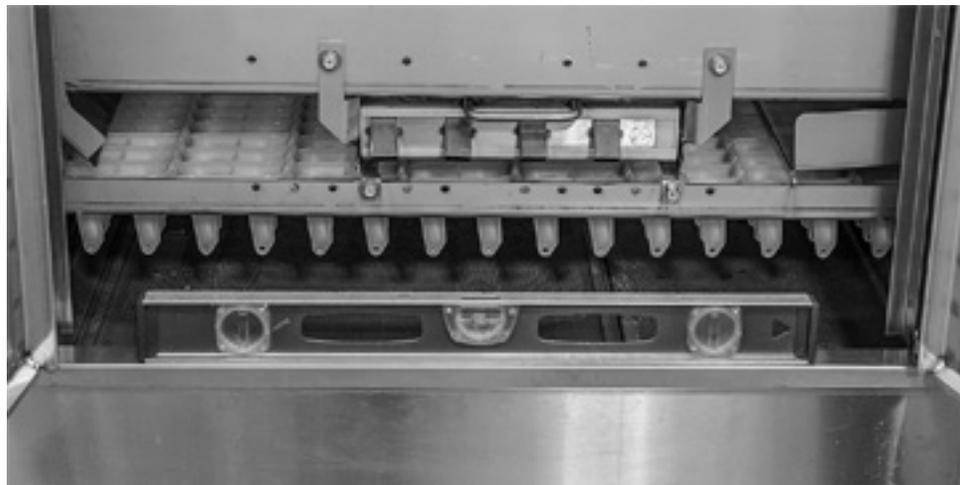

Fig. 3
- Level the center section along its length by opening the doors and placing a level between the doors along the tank support rail (Fig. 3). Do not check level on top of doors. Adjust the feet in or out as required to level.
The tank support rails should be level across the entire length of the machine (Fig. 3). Sections to be mated should be level front to back (Fig. 4).